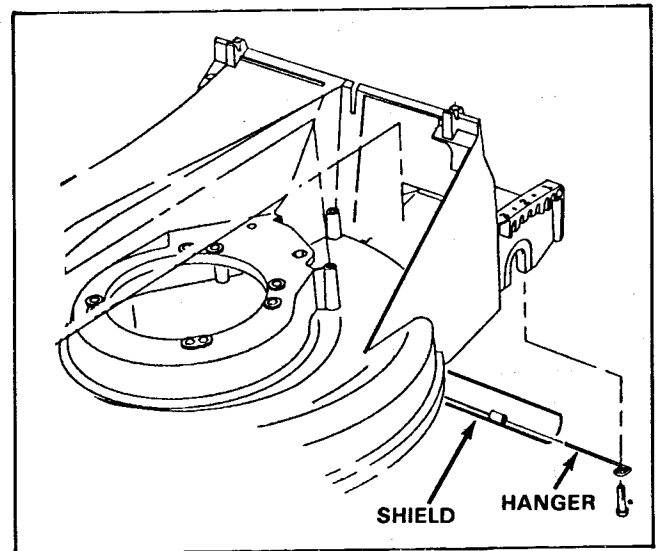

Figure 39
5. Position the safety shield components as shown in Figure 39, and secure the safety shield and end caps with the two flanged head capscrews. Torque all end cap capscrews.